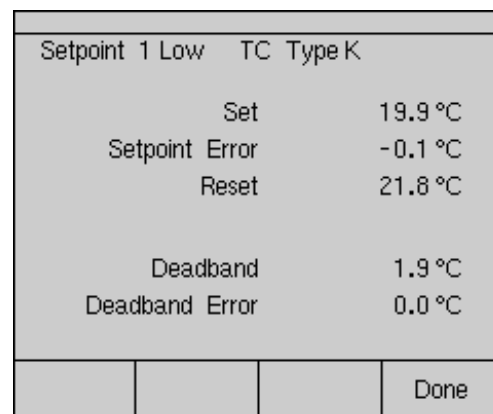

Figure 7.
10. Depress the "As Left" softkey, confirm the test settings, depress the "Done", "Auto Test" and "Continue" softkeys. Monitor the DPC as it performs the As Left evaluation. Once the post test summary is displayed, review the results. If all results are in normal video (as in Figure 7), the As Left test passes. Depress the "Done" softkey, and "Done" again to save the Tag information. If there were inverse video indications of a failure, repeat the adjustments performed in Step 9 until a passing result is obtained.